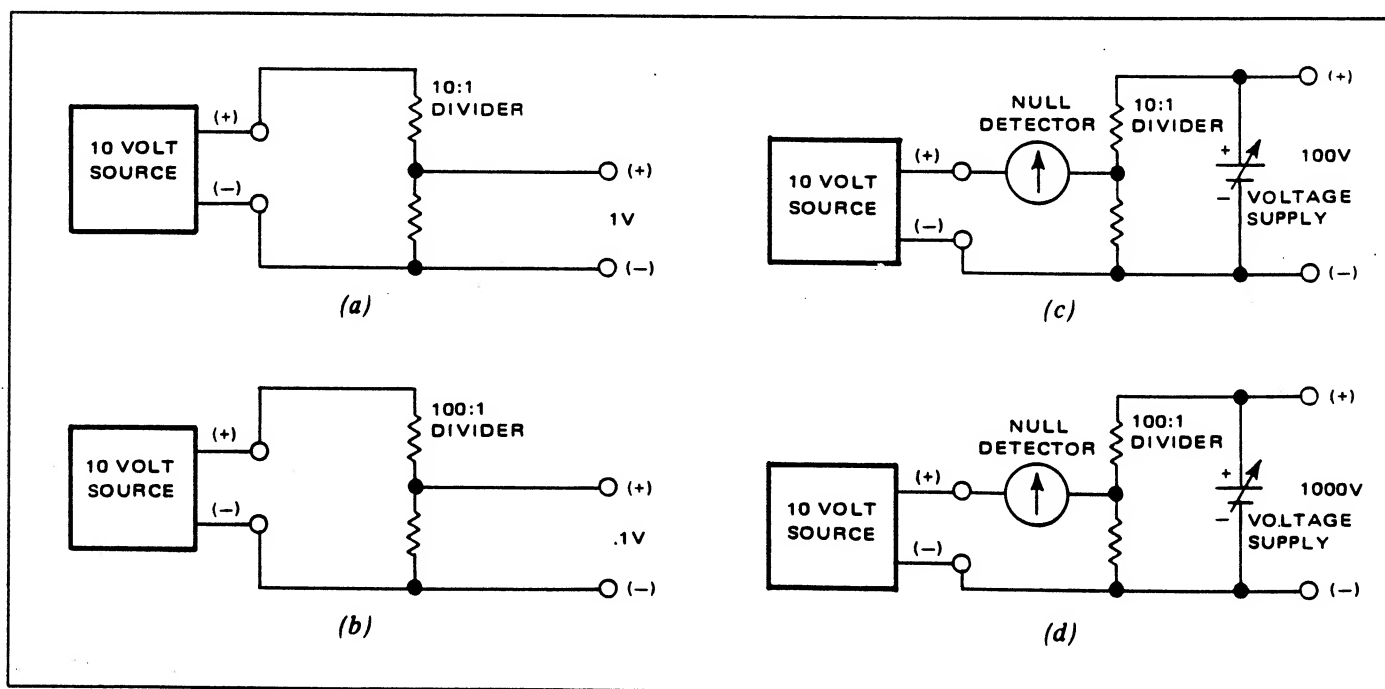

Figure 3.29 - Generating Accurate DC Levels
3.7.2.3.3.1 The remainder of the DC sources can be generated by the circuits shown in Figure 3.29. Each of these hookups use a calibrated 10 volt source having the characteristics of the one previously described.